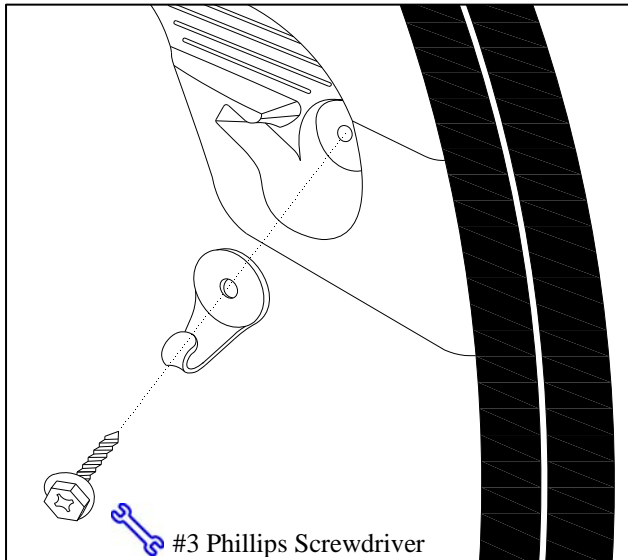

Fig. 1-3
- (c) Select one of the hooks and insert the screw through the hole of the hook. Re-install the removed screw (with hook) into the panel recess. (Fig. 1-3) Ensure the hook is located on the bottom of the opening and tighten with the #3 Phillips screwdriver.